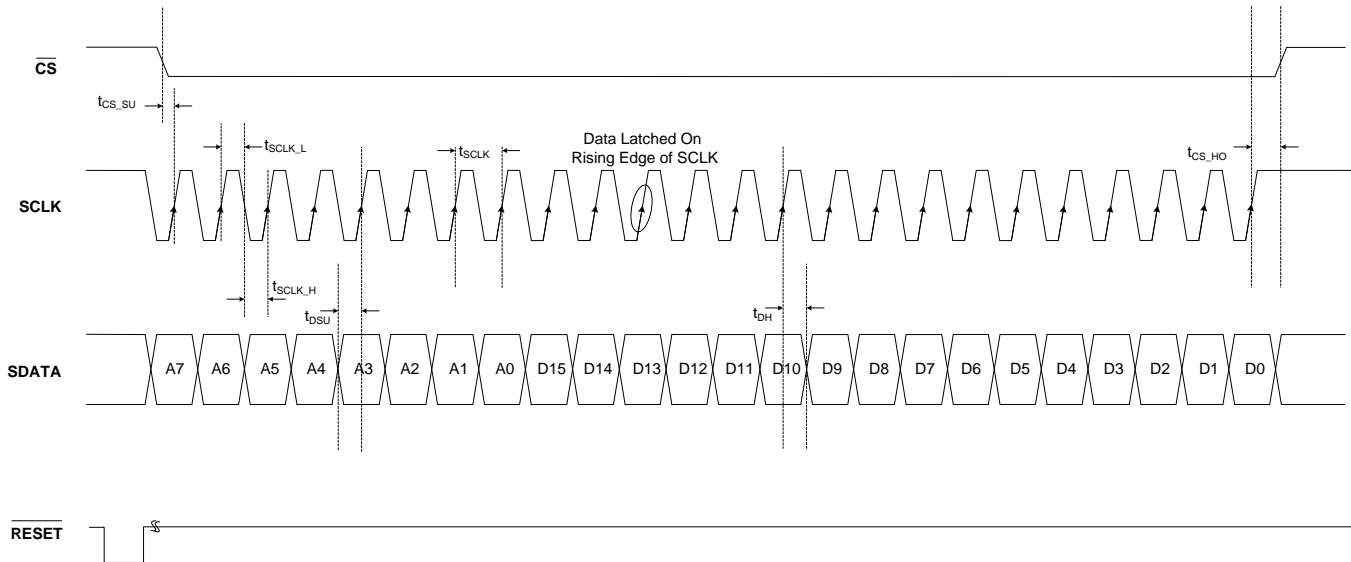

Figure 74. Serial Interface Write Timing Diagram
1. Either through a hardware reset by applying a low pulse on the  $\overline{\text{RESET}}$  pin (of widths greater than 50 ns), see Figure 74; or
Table 7. Timing Characteristics for Figure 74 and Figure 76(1)